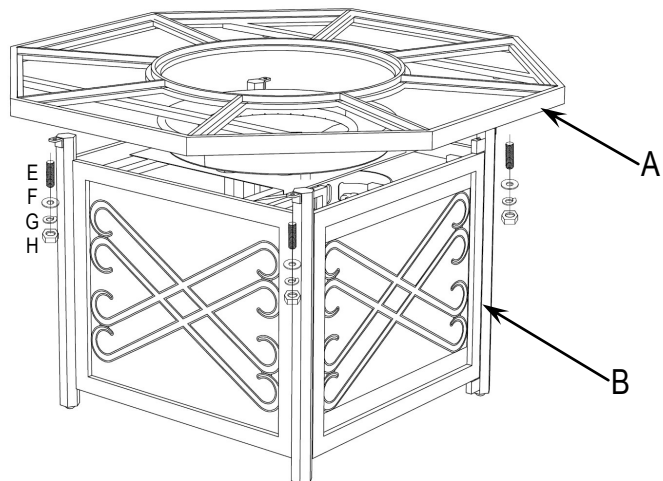

Figure 3
- Fix the Table Top Frame (A) onto the Base Assembly (B) with Stud (E), Washer (F), Spring washer (G) and Nut (H), screw the Nut (H) tightly by using the Wrench (I), (see Figure 3).